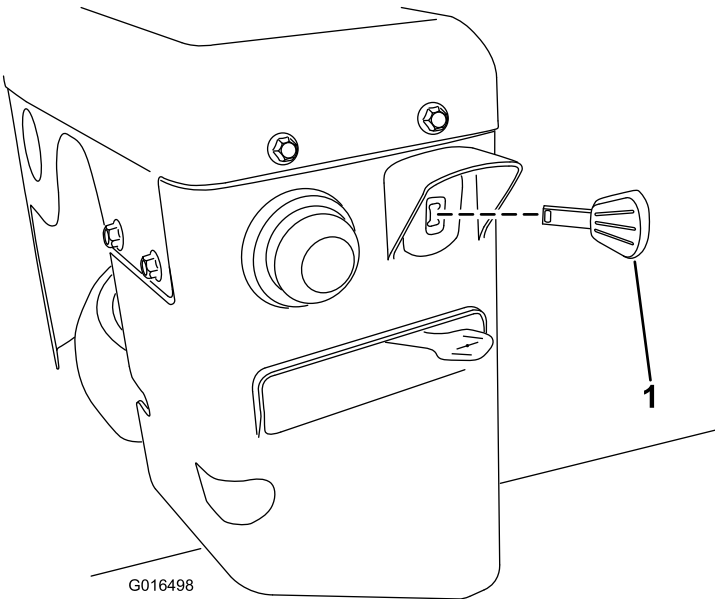

Figure 25
3. Insert the ignition key all the way in (Figure 25).